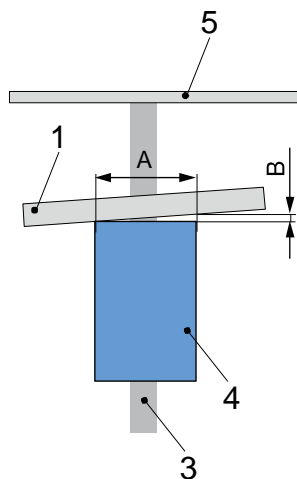

Fig. 2: Alignment of brake to the flange
1. Position the mounting flange (Fig. 2 Item 1) (customer-side) at the fixed bearing of the piston rod.
To check the angular misalignment of the mounting flange (Fig. 2 Item 1) to the brake (Fig. 2 Item 4), the distance of the brake to the mounting flange at the circumference of the brake is measured. Maximum gap B = 0.05 mm